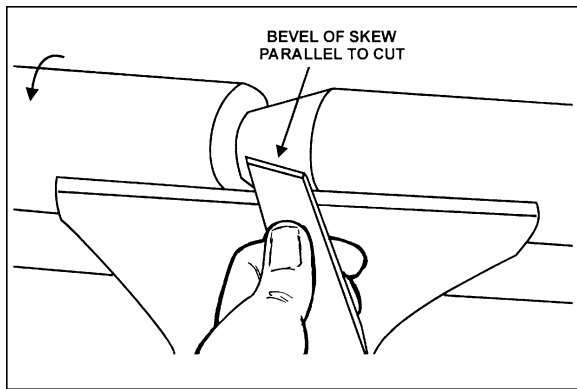

Figure 9-8
4. With the bevel parallel to the right side of the cut, raise the handle and push the tool in to the desired depth, as shown in Figure 9-8.